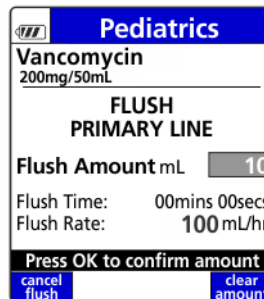

Figure 109. Enter Primary Line Flush Volume.
3. Enter the desired flush amount to be delivered and press **OK**. See Figure 109.